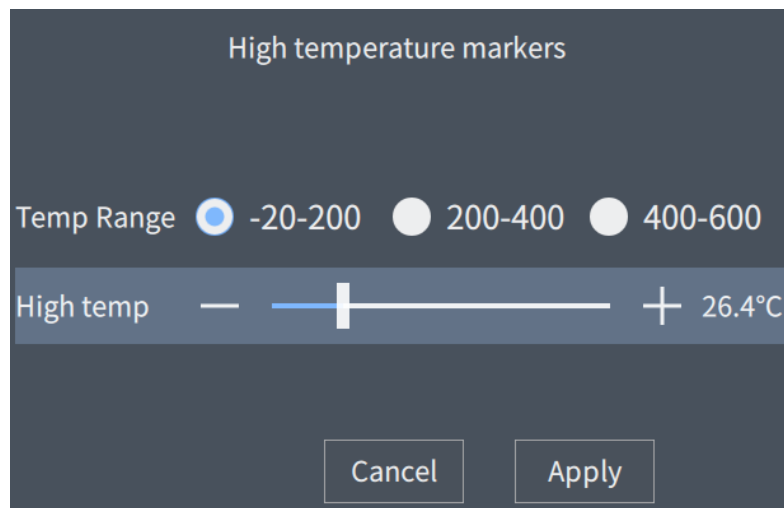

Figure 4.10 Setting the temperature value
Step 3: Touch and click  or switch the physical button to , press the physical "OK" key to open the temperature threshold filling interface (as shown in Figure 4.10);